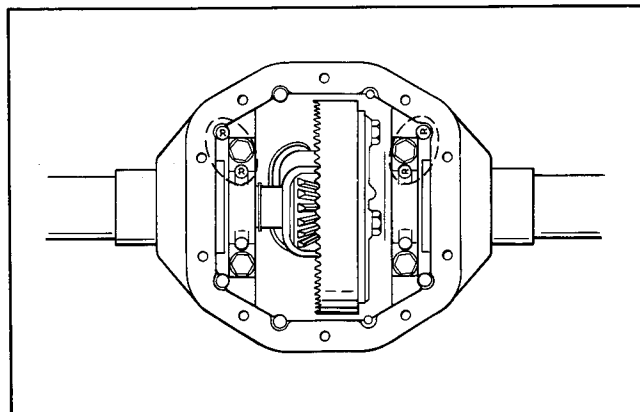

Figure 4-6 – Bearing Cap Identification
- g. Remove differential bearing cap bolts (4). Bearing caps are marked for location identification along with the carrier. See Figure 4-6. When reassembling, the caps must be installed in their original position. Remove bearing caps (5).